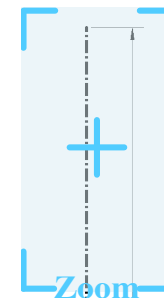
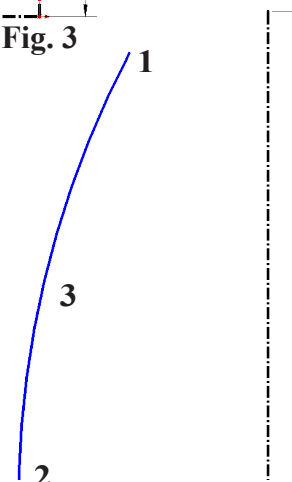

Fig. 3
Fig. 4
- Step 1. Zoom in at **top of vertical centerline**, **Fig. 3**.
- Step 2. Click **3 Point Arc**  (S) in the **Arc flyout**  on the Sketch toolbar.
- Step 3. Sketch an arc between the Position 1, Position 2 and Position 3 in **Fig. 4**. To sketch the arc, first click Position 1, then Position 2. Swing the arc out to Position 3 and click.